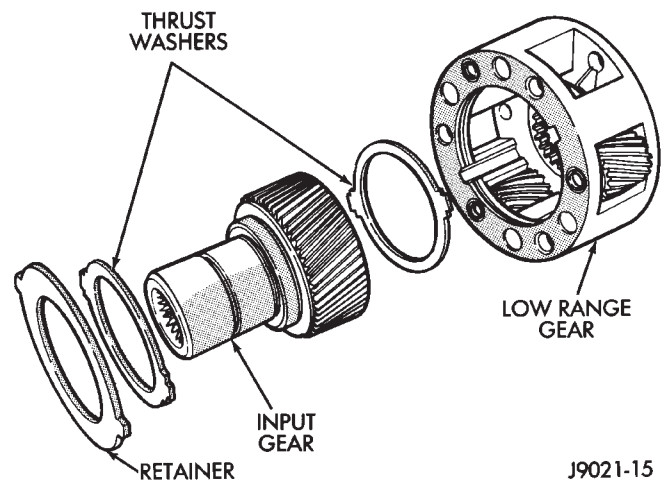

Fig. 41 Input And Low Range Gear Components
(3) Lubricate and install thrust washers, input gear and retainer in low range gear (Fig. 41). Then install retainer snap ring. **Be sure snap ring is fully seated before proceeding.**
(4) Align and install input/low range gear assembly in case. Use hammer handle to tap low range gear into annulus and input gear into bearing if necessary.